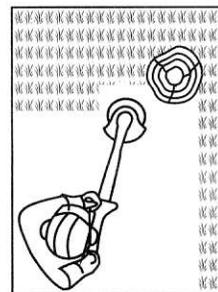

Fig. 19
4. Pull the plant protector (13) out to avoid bringing the cutting device into contact with hard objects such as walls and kerbstones (Figs. 19, 20).